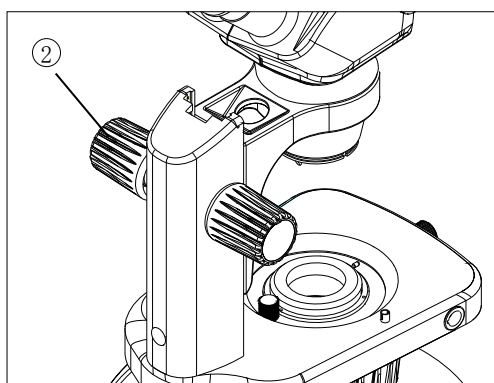

Fig. 6
3.1.3 Adjusting the rotation tension of the focus adjustment knob (Fig. 6)